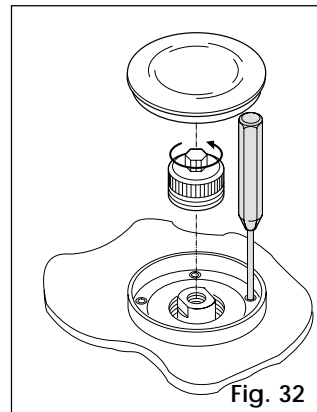
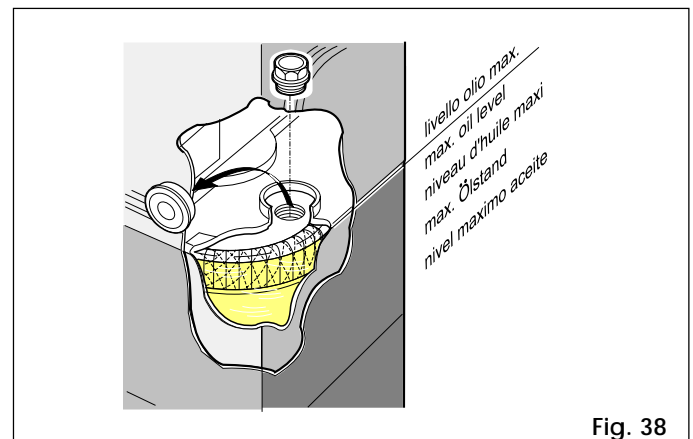
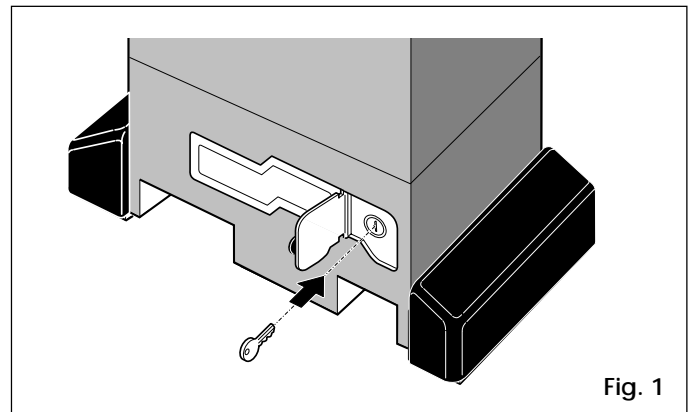

Fig. 32
Fig. 38
Fig. 1
- 2) Remove the cover of the relevant bore (Fig. 1- ref. 9), and unscrew the cap of the clutch adjusting screw (Fig. 32).
To access the oil reservoir, remove the oil filler cap (Fig.1 ref.10). The oil level should be up to the copper windings of the electric motor (Fig. 38).
- 1) Open the lock cover plate and insert the key supplied in the lock (Fig.1).